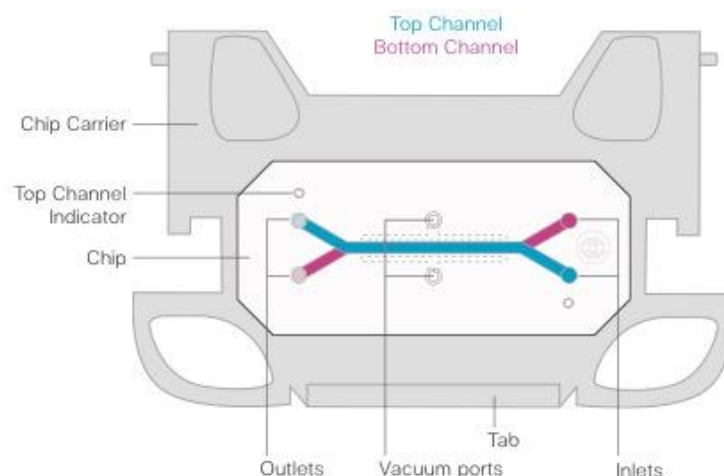

Figure 2: Top view of chip, with labelled ports, in chip carrier
- Carefully introduce approximately 20 μ L of ER-1 solution through the bottom channel inlet, pipetting until the solution begins to exit the bottom channel outlet (see Fig. 2 above).
- Introduce approximately 50 μ L of ER-1 solution to the top channel inlet, pipetting until the solution begins to exit the top channel outlet (see Fig. 2 above).